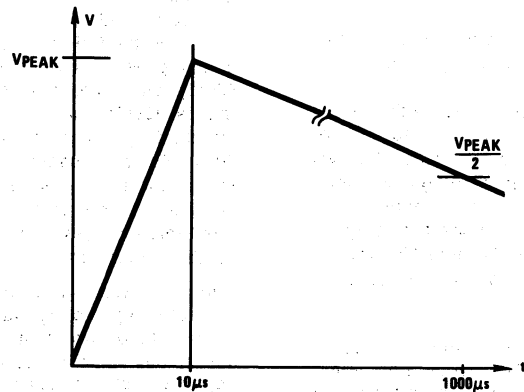

FIGURE 20. SIMULATED LIGHTNING STRIKE WAVEFORM.
have primary protection networks. They often take the form of a carbon block or arc discharge device. These limit the fault voltage to 500V - 1000V peak before it reaches the switch line cards. Thus when a transient high voltage fault has occurred, it will be transmitted as a wave front down the line. The primary protection network limits the voltage to 500V to 1000V. The attenuated wave front will continue down the line towards the SLIC. The feed amplifier outputs appear to the surge as very low impedance paths to the system battery. Once the surge reaches the feed resistors, fault current will flow into or out of the feed amplifier output stages until the relevant protection diodes switch on. Bench measurements have indicated peak fault currents of up to 150mA into and out of the SLIC during the finite turn on time of the diode bridge. Once the necessary diodes have started to conduct all the fault current will be handled by them. The geometry of the SLIC and its package has been designed to withstand the full rated peak fault voltage at its tip (T) and ring (R) terminals: for ceramic packages this is 500V peak, and for plastic (or epoxy) packaged SLICs this is 1000V peak. The circuits are rated against standard lightning characteristics defined by Figure 20. The ceramic package contains an air gap whereas the plastic packages contain no void. The dielectric constant of air is lower than that of the epoxy and it is this which breaks down at lower voltages than the plastic compound.